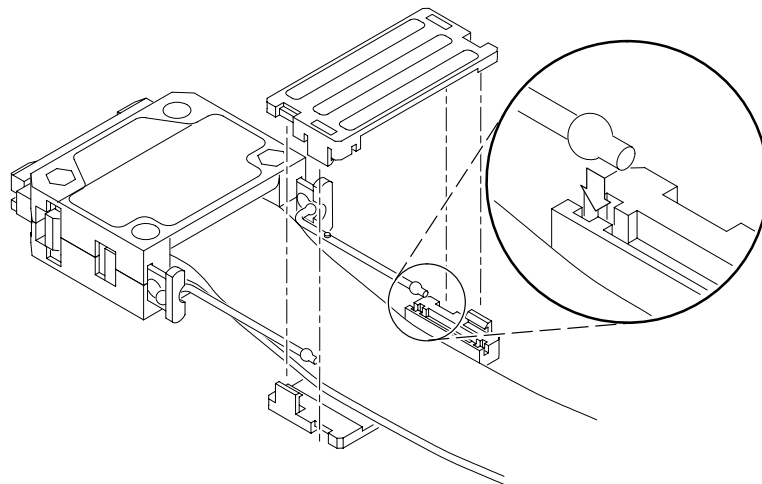

Figure 16: Reattaching the latch release cords and reconnecting the latch release grip
3. Place the other end of the latch release cords into the latch release grip and reconnect the latch release grip as shown in Figure 16.